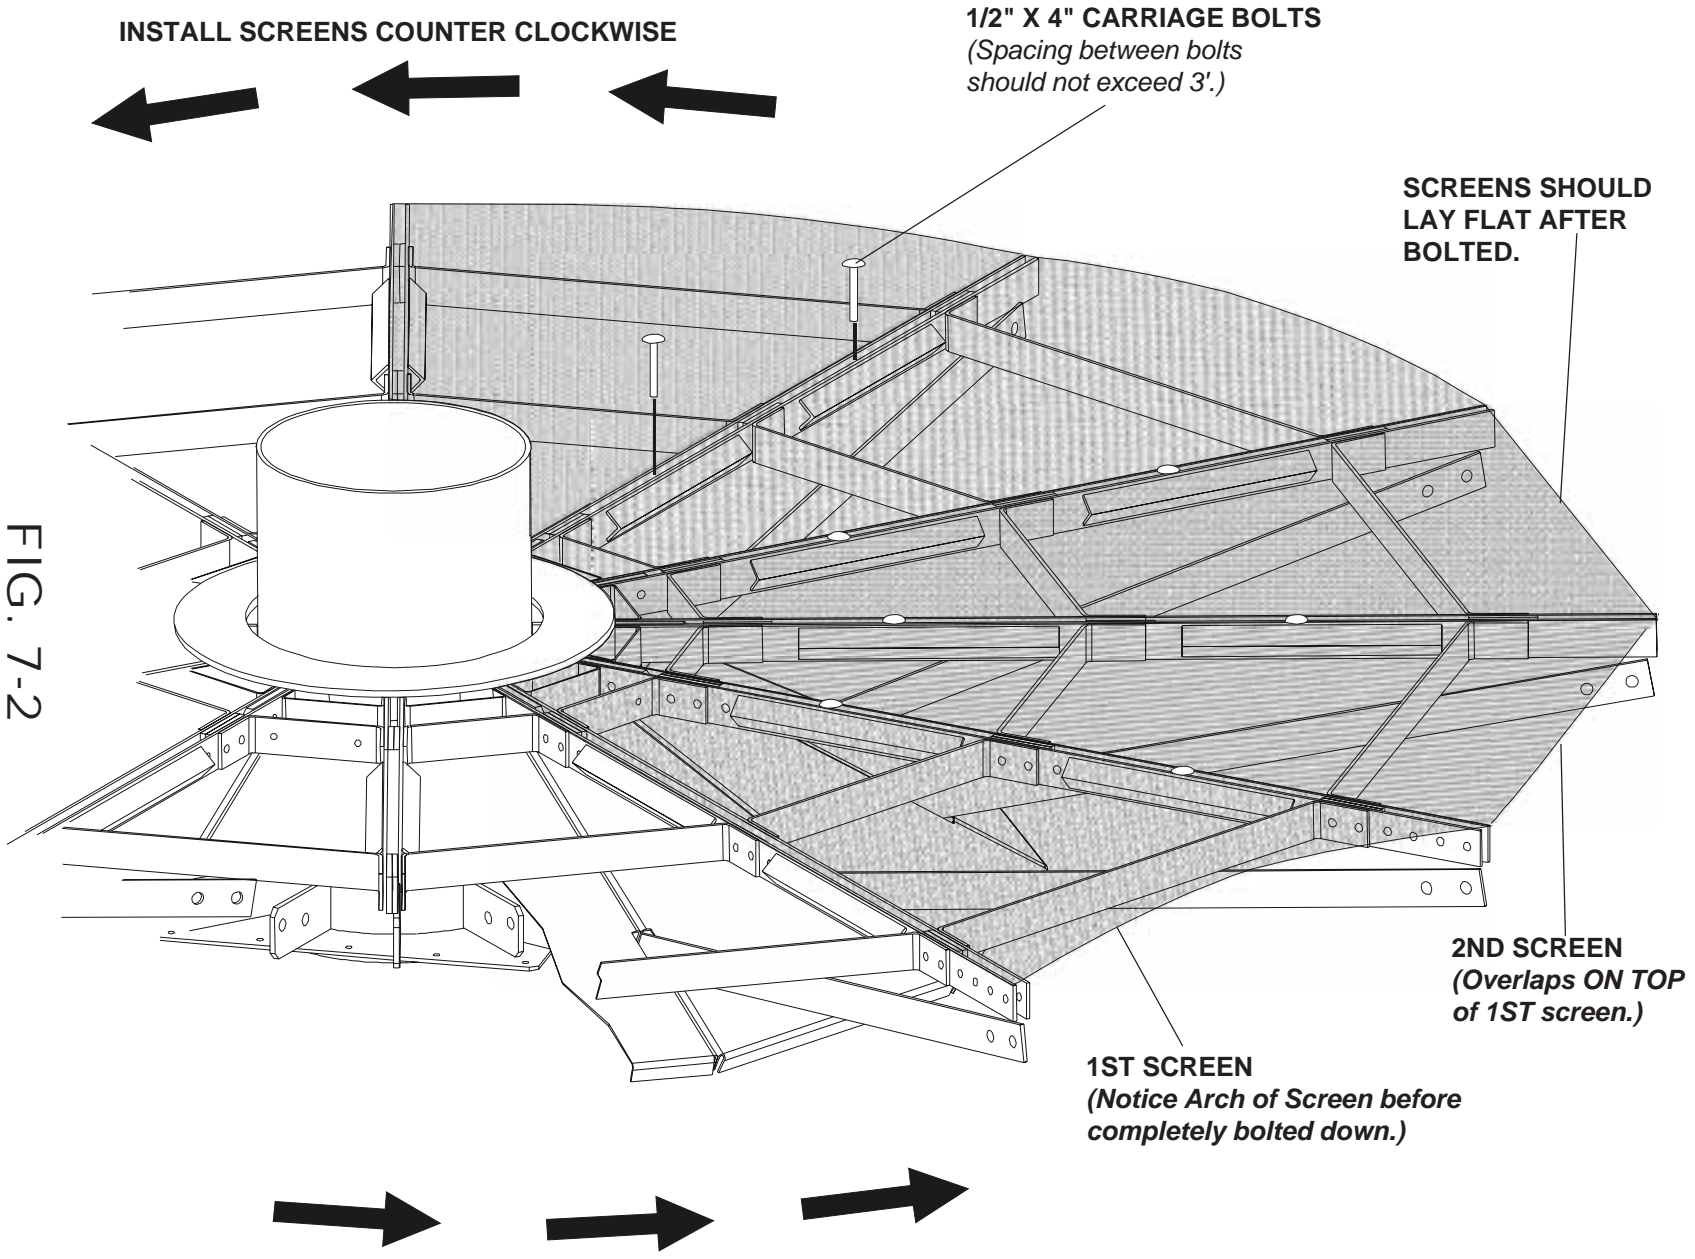

FIG. 7-2
3. Move in a counter clockwise direction as viewed looking down from above and lap the next Screen over the edge of the first one. Check the alignment as above for overlap and general placement. Pass a 1/2" x 4" Carriage Bolt down through both screens, and between the bars of the Screen Deck Arms. It may be necessary to use a tapered punch to align and/or widen the screen mesh. Install a flanged nut below the Screen Deck Arm to secure the screen, and tighten the bolt. There is not a specific convention on the spacing of these bolts, but the general centerline distance should not exceed three feet and the screen should be held flat. (See Fig. 7-2)